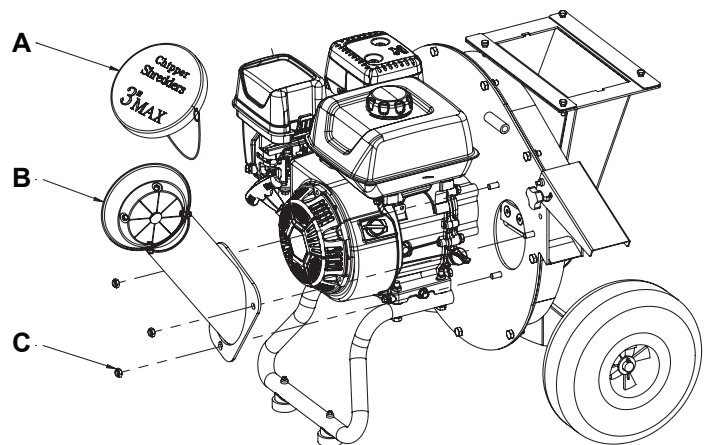

Figure 10
Inspect Chipping Knives (See Figure 10)
2. Remove the nuts securing the chipper cone to the front of the chipper. Remove the chipper cone to access the knives. SEE Figure 10
4. Note the assembly sequence of the hardware used to secure the hammers. Using an allen wrench remove the socket head cap screw (A) and related hardware. SEE FIGURE 10
5. Inspect the hammers (D), spacer tubes (C, E), and hardware. If the spacer tube (E) shows signs of wear, replace it. Inspect and flip, or replace the hammers (D).
6. Reassemble the hammers, spacers, washers, and cap screws. Torque the socket head cap screws (A) back tightly